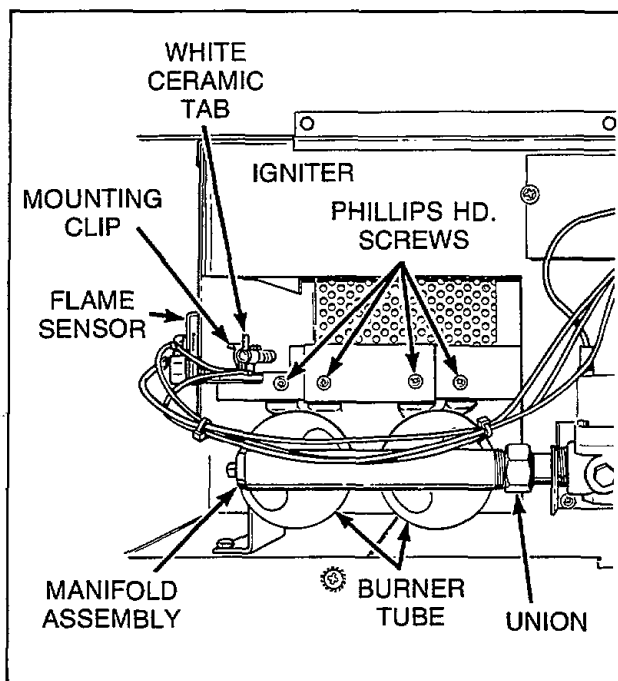
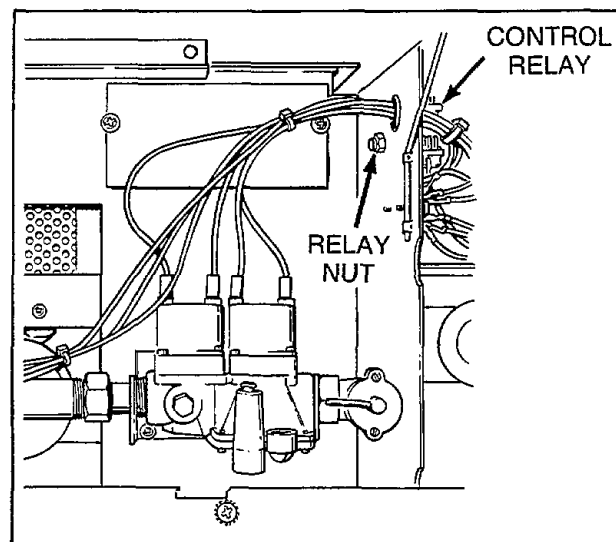

Figure 7
Figure 8
d. Burner Tube Assembly (Refer to Figure 7)
- (1) Unlock and open access door.
- (2) Remove control panel assembly, paragraph 1.
- (3) Disconnect gas valve pipe union and remove manifold.
- (4) Remove Phillips head screws holding burner tube to stove frame and remove burner tube.
e. Igniter and Bracket — Glow Bar Ignition Models (Refer to Figure 7)
- (2) Using a 90 degree tip Tru-Arc pliers, insert the plier tips into holes in each mounting clip just far enough for igniter removal.
f. Flame Sensor — Glow-Bar Ignition Models (Refer to Figure 7)
- (2) Disconnect wires from flame sensor.
- (3) Remove screw holding flame sensor to side of stove assembly.
g. Control Relay — Glow-Bar Ignition Models (Refer to Figure 8)
- (2) Disconnect wires from relay.
- (3) Remove nut holding control relay to stove assembly.